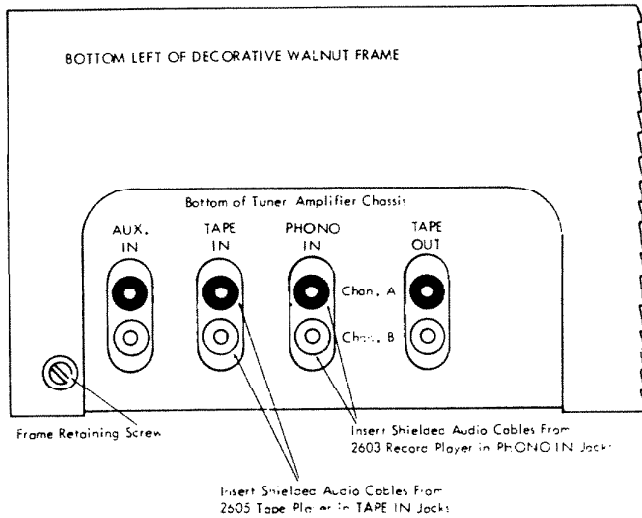

Fig. 1.31
1. Remove decorative frame: Extract two retaining screws (one each end) in bottom of cabinet (Fig. 1.31)